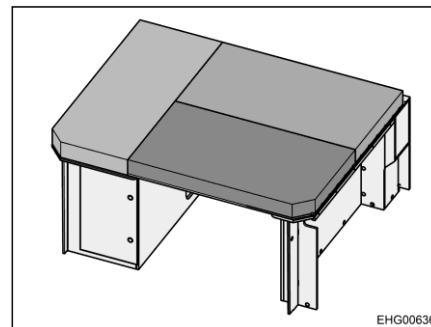

Fig. 38 Rear bed (converted for sleeping)
- Distribute the cushions on the lying surface as shown in Fig. 38.